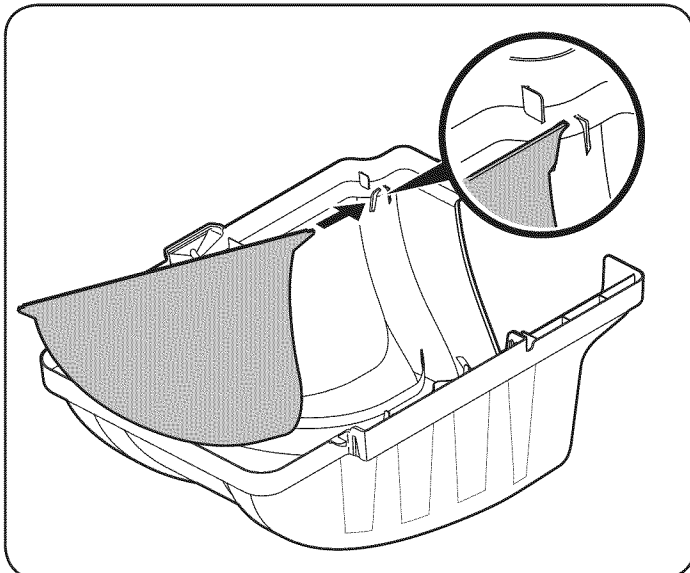
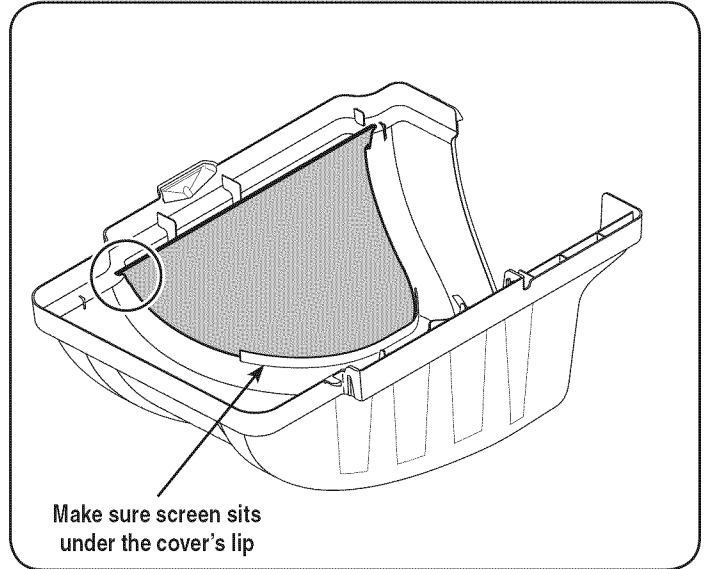

Figure 14
Figure 15
3. Install the grass catcher cover screen into the bagger cover by first inserting the end closest to the side with the cutout into the mounting hole, as in Fig. 14. Make sure to feed the screen under the lip, as in Fig. 15.
4. Clip in the other side by flexing the screen and pushing it down into the provided cutout hole. See Fig. 15.